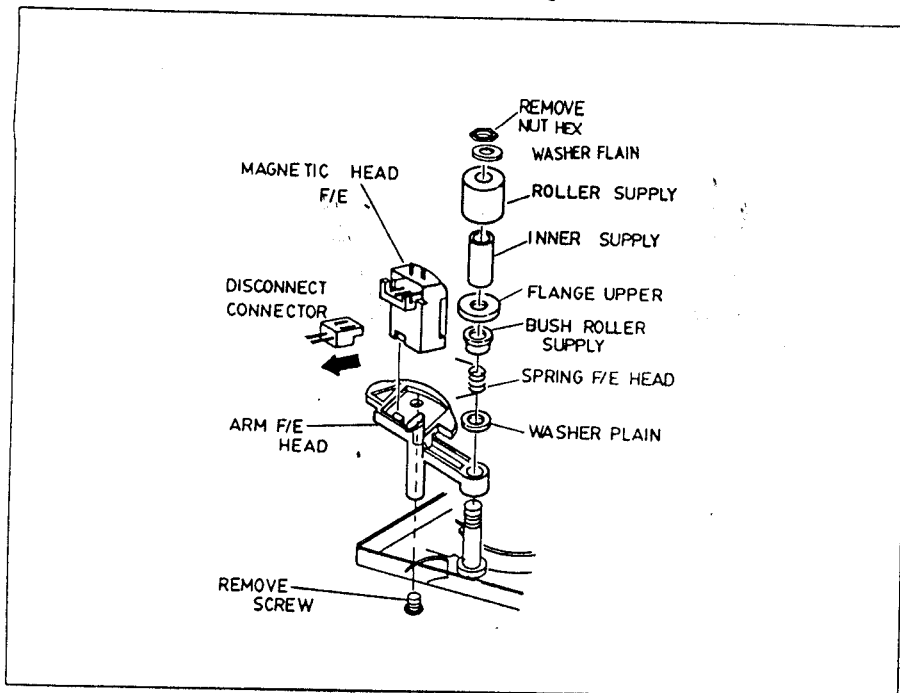

Fig. 24 Full Erase (FE) Head/Supply Roller Removal
2-2-6. Full Erase (FE) Head/Supply Roller Removal (Fig. 24)